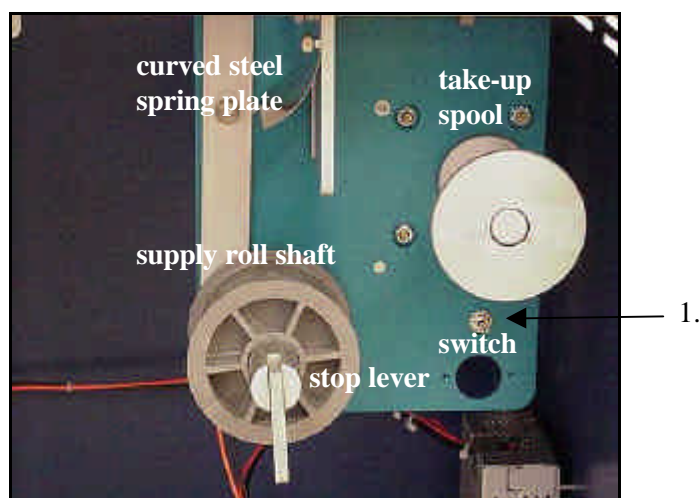

Figure 15: D1 Tag Dispenser
1. Make sure the tag dispenser switch to the right of the supply roll shaft is set to the **OFF** (middle) position before loading the tag dispenser (**Figure 15**).